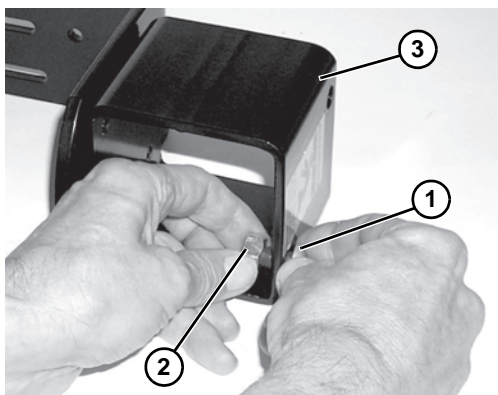

Figure 8
11. Install two M10 x 16mm button head screws (**Figure 8, item 1**) and hex nuts (**Figure 8, item 2**) on leg support bracket (**Figure 8, item 3**). Do not tighten screws.